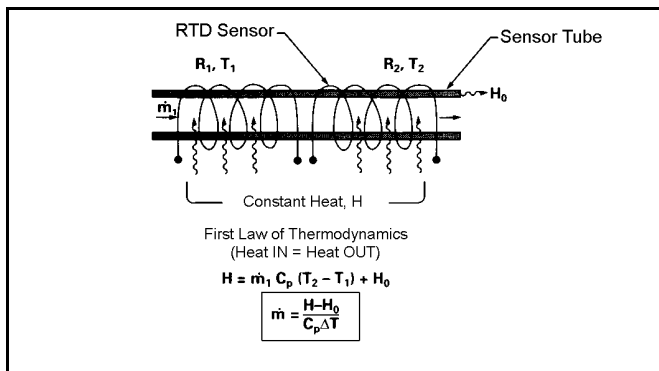
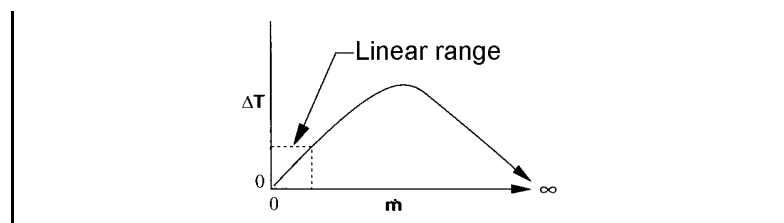

Figure 1-2. Flow Measuring Principle
Figure 1-4. Linear Range of the Transducer's Output Signal
Figures 1-2 and 1-3 show the mass flow through the sensor tube as inversely proportional to the temperature difference of the coils. The coils are legs of a bridge circuit with an output voltage in direct proportion to the difference in the coils' resistance; the result is the temperature difference (ΔT). Two other parameters, heat input (H) and coefficient of specific heat (C_p) are both constant. Through careful design and attention to these parameters, this output signal is made linear over the transducer's normal operating range (Figure 1-4). As a result, the measured flow through the sensor tube is directly proportional to the gas flow in the main body.